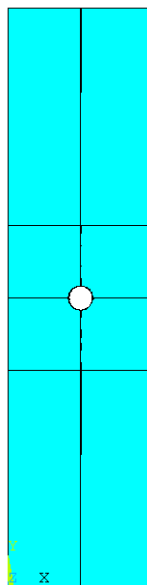

Figure 3. Plate geometry.
10. Select the 8 blocks that were created in steps 4 and 5 and click **OK**. When prompted to select the volumes to be subtracted, pick the cylinder and click **OK**. The plate should appear as shown in Figure 3.